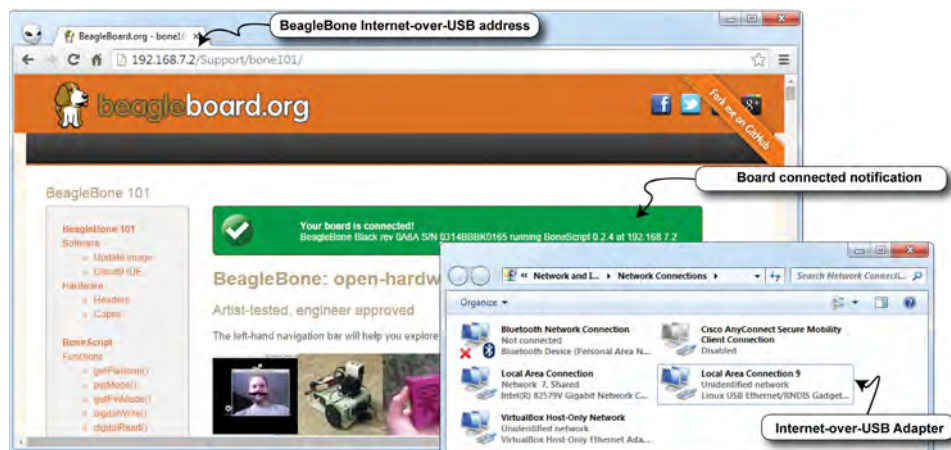

Figure 2-2: Windows Network Connections with Internet-over-USB connection LAN 9, and a web browser connection
For example, if you fully installed the BBB drivers under Windows, you should now have a new network connection (Start > type **view Network Connections**). Figure 2-2 captures a typical Network Connections window under Windows. In this case, “Local Area Connection 9” is the Linux USB Ethernet/RNDIS Gadget. The desktop computer remains connected to your regular LAN, which provides access to the Internet, and to a new “private” LAN that contains only your desktop computer (192.168.7.1) and your BBB (192.168.7.2). You can open a web browser and connect to the BBB’s web server by typing 192.168.7.2 in the address bar, as illustrated in Figure 2-2.
3. In the drop-down list, choose your BBB private LAN (e.g., referring back to Figure 2-2, this is "Local Area Connection 9"). Click OK.
If all goes well, you will not have noticed any difference at this point and you should be able to reload the web page that is shown in Figure 2-2. The impact of the last two steps can only be appreciated when you open a terminal connection to the BBB. A link to a video guide for configuring network sharing for Mac OS X is available at tiny.cc/ebb202.
Once you have the IP address, you can test that it is valid by entering it in the address bar of your web browser—192.168.1.116 in the example above. Your browser should display the page that is shown in Figure 2-2.